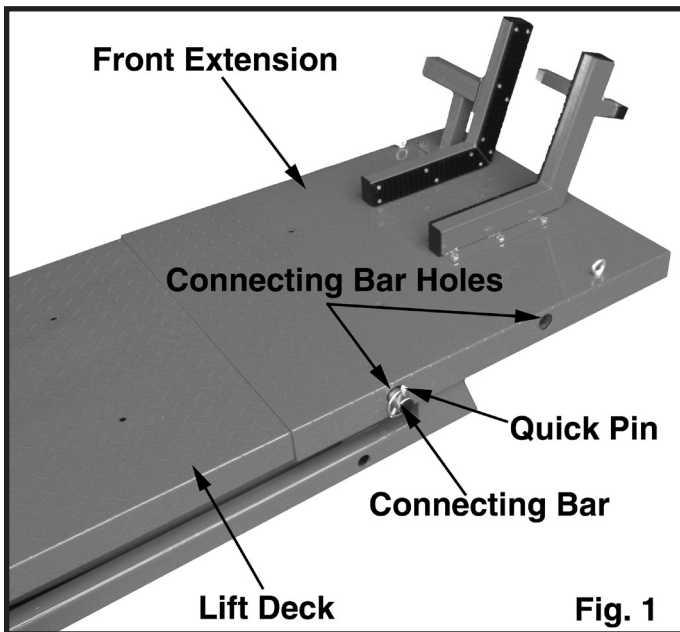

Fig. 1
1. See fig. 1 to assist you in the process of this installation. Slide the front extension over the front of the lift deck until first set of connecting bar holes on the side of the extension line up with the holes on the side of the lift.